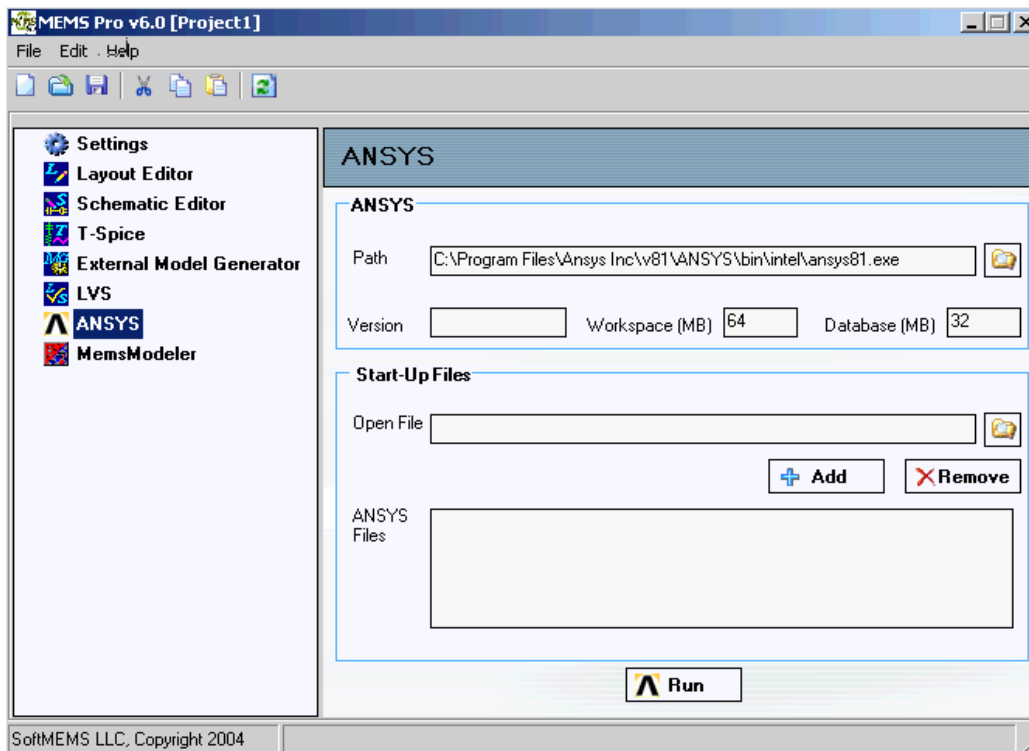

Figure 104: ANSYS Setup
- ☑ Click ANSYS in the **Tools Selection** window. The information tab is related to the ANSYS setup as shown in (Figure 104). By default, the workspace and the database space are filled.